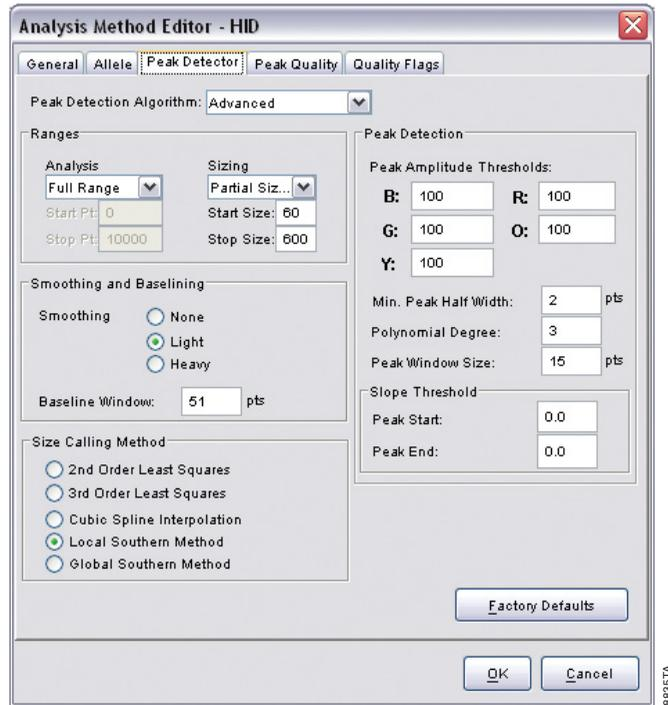

Figure 8. The Peak Detector tab.
10. Select the Peak Detector tab. We recommend the settings shown in Figure 8.